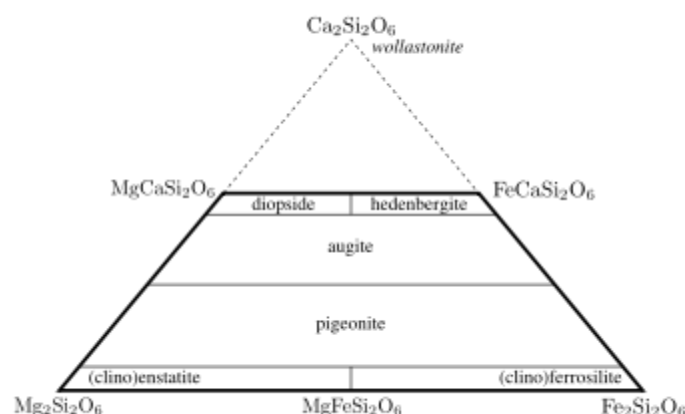
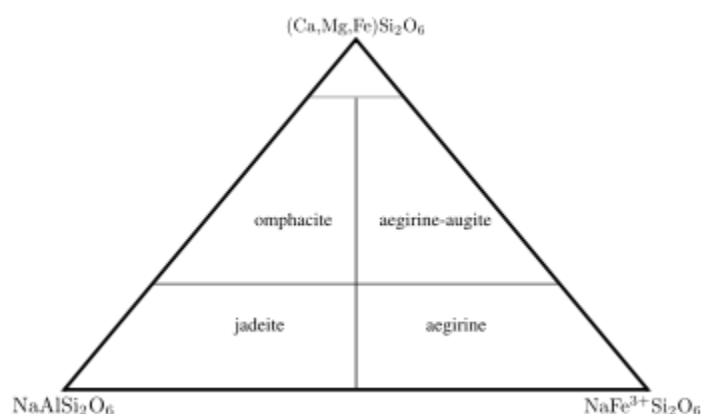

Figure 1 : *The nomenclature of the calcium, magnesium, iron pyroxenes.*
Figure 2 : *The nomenclature of the sodium pyroxenes.*
A typical pyroxene has mostly silicon in the tetrahedral site and predominately ions with a charge of +2 in both the X and Y sites, giving the approximate formula XYT_2O_6 . The names of the common calcium – iron – magnesium pyroxenes are defined in the 'pyroxene quadrilateral' shown in Figure 1. The **enstatite-ferrosilite** series ($[\text{Mg,Fe}]\text{SiO}_3$) contain up to 5 mol. % calcium and exists in three polymorphs, **orthorhombic** orthoenstatite and protoenstatite and **monoclinic** clinoenstatite (and the ferrosilite equivalents). Increasing the calcium content prevents the formation of the orthorhombic phases and **pigeonite** ($[\text{Mg,Fe,Ca}][\text{Mg,Fe}]\text{Si}_2\text{O}_6$) only crystallises in the monoclinic system. There is not complete solid solution in calcium content and Mg-Fe-Ca pyroxenes with calcium contents between about 15 and 25 mol.% are not stable with respect to a pair of exolved crystals. This leads to a miscibility gap between pigeonite and **augite** compositions. There is an arbitrary separation between augite and the **diopside-hedenbergite** ($\text{CaMgSi}_2\text{O}_6 - \text{CaFeSi}_2\text{O}_6$) solid solution. The divide is taken at > 45 mol.% Ca. As the calcium ion cannot occupy the Y site, pyroxenes with more than 50 mol.% calcium are not possible. A related mineral **wollastonite** has the formula of the hypothetical calcium end member but important structural differences mean that it is not grouped with the pyroxenes.
important series of pyroxene minerals are the sodium-rich pyroxenes, corresponding to nomenclature shown in Figure 2 . The inclusion of sodium, which has a charge of +1, into the pyroxene implies the need for a mechanism to make up the "missing" positive charge. In jadeite and aegirine this is added by the inclusion of a +3 cation (aluminium and iron (III) respectively) on the Y site. Sodium pyroxenes with more than 20 mol.% calcium, magnesium or iron(II) components are known as omphacite and aegirine-augite, with 80 % or more of these components the pyroxene falls in the quadrilateral shown in figure 1.